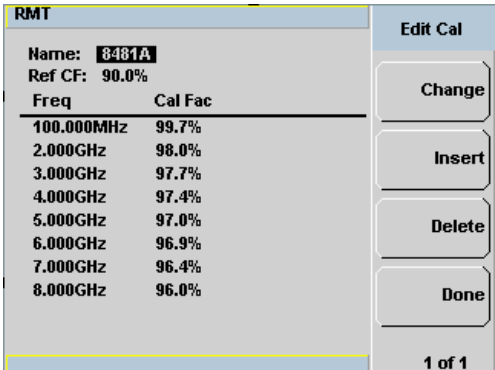

Figure 7-129 "Edit Cal" display
- 2 Choose the table you want to edit using the  and  keys. Press **Edit Table** to display the **Edit Cal** screen as shown in Figure 7-129.